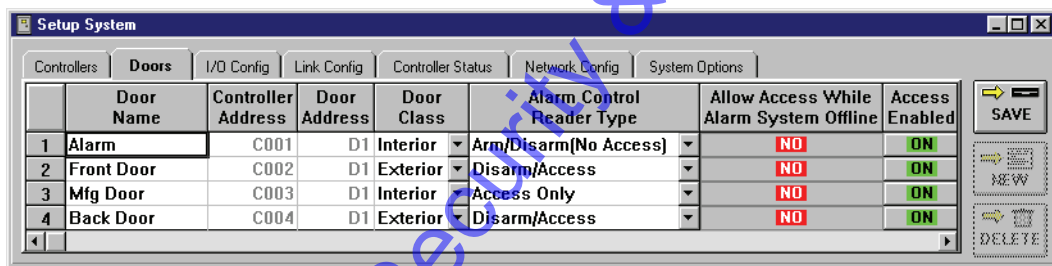

Figure 12-5: Setup System - Alarm Control Reader Type Set
5. Repeat steps 2 through 4 for each controller/door. The resulting window should look similar to Figure 12-5 on page 5.